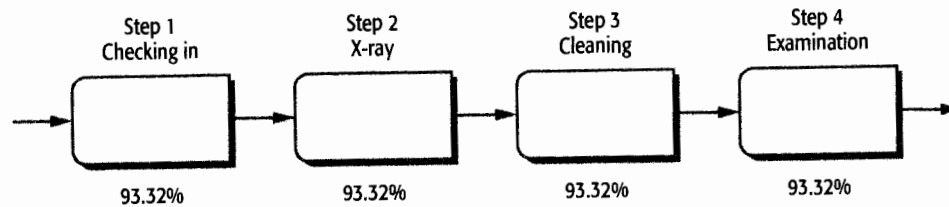
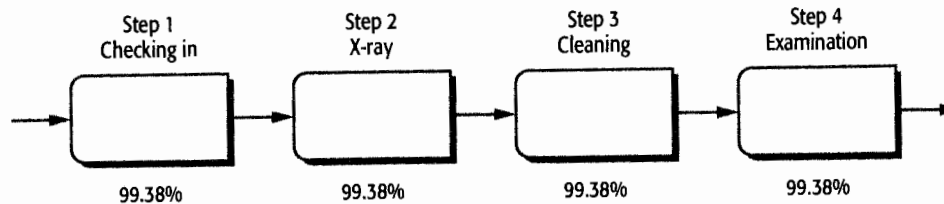

FIGURE 2.14 Percentage of Error-Free Outcomes at Each Step
FIGURE 2.15 Percentage of Error-Free Outcomes at Each Step
Calculate the percentage of error-free outcomes for the entire process if the percentages of error-free outcomes for each step is as specified in (a) Figure 2.14 and (b) Figure 2.15.
- (b) The percentage of error-free outcomes for the entire production process represented in Figure 2.15 is
This example illustrates that by going from a lower (Figure 2.14) to a higher process (Figure 2.15) sigma level at each step, the overall quality improves from 75.84 percent to 97.54 percent—a significant improvement.